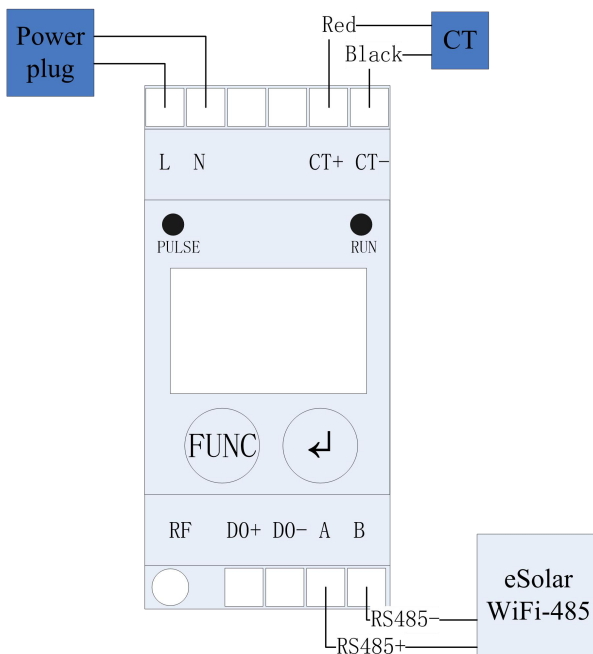

Figure 2-4
1. There are 11 terminals on the eSolar MeterS-485 in total while actually only 6 will be used, as shown in Figure 2-4.